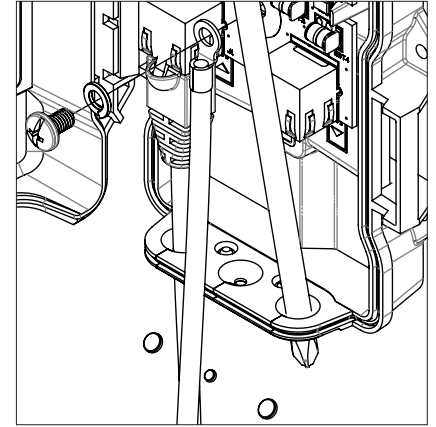

Figure 4 - Cable installation
1. Secure ground lug with M5 (#10) screw (provided as installed with unit). Torque to 1 Nm (8.8 in-lbf)  $\pm 10\%$  (see Figure 4).